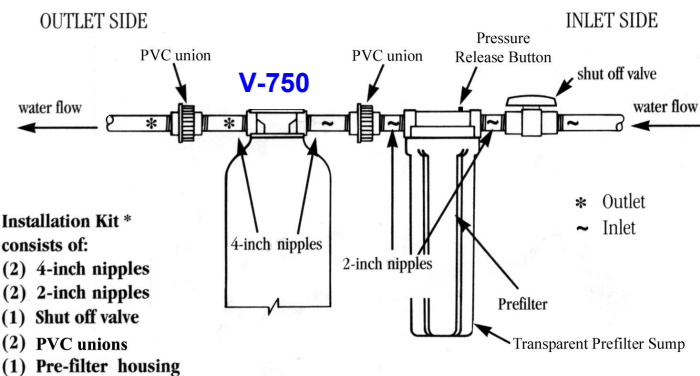

Figure 1
3. Shut off water supply. Assemble the V-750 pre-filter housing and shut-off valve; make connections to the inlet side only (Figure 1), using the nipples and PVC unions provided. **Do not use metal nipples!** Only use Teflon tape for thread sealing. **CAUTION: Be careful not to overtighten any connections.**
5. Complete the outlet connections (Figure 1). Slowly turn the water supply back on. If there are any leaks, shut off the water supply and retighten the connections.